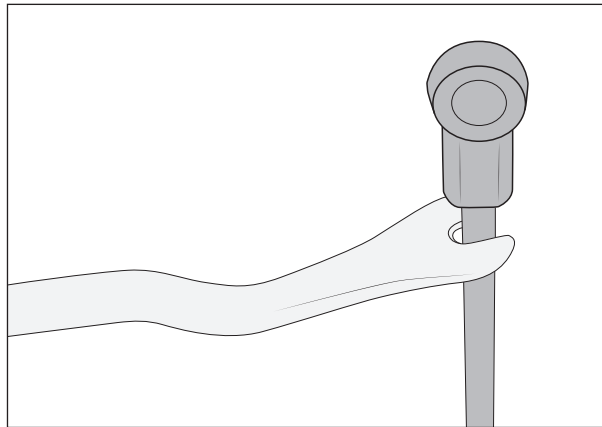

Figure 1
- e. Remove socket ends from links. An easy way to remove the socket ends is to secure the link in a vice, place a metal trim tool under the socket end, and pry upwards (fig. 1).